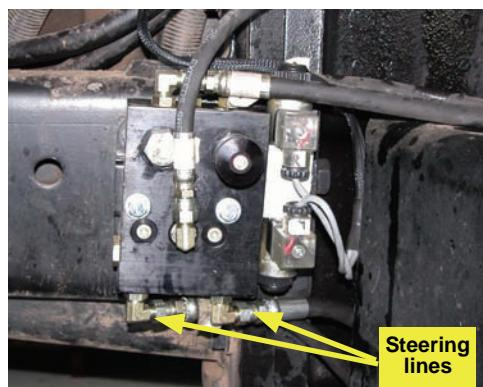

Figure 3b: Installed left and right steering hoses at the steering block.
- b. Route the left and right steering hoses down to the hydraulic steering block. Attach the hoses to the A and B ports of the hydraulic steering block (Figure 3b).